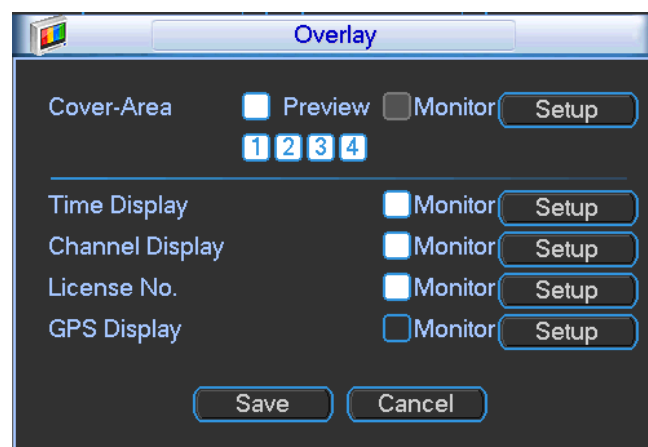

Figure 4-39
- Overlay: Click overlay button, you can see an interface is shown in Figure 4-39. Please note the following overlay titles can not be in the same position. **Please note only the unit of GPS module supports GPS overlay function.**